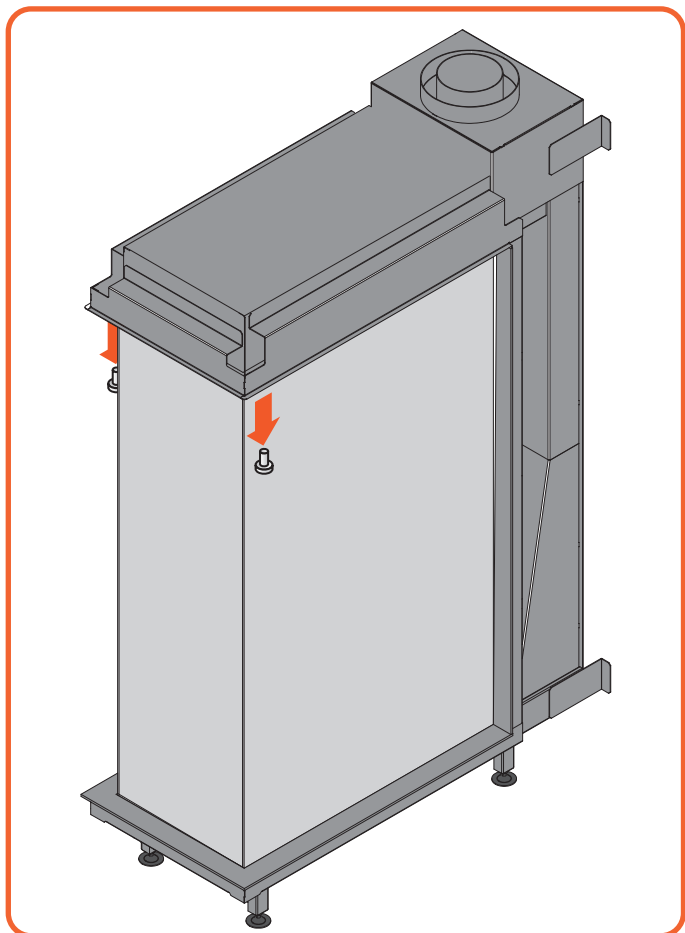
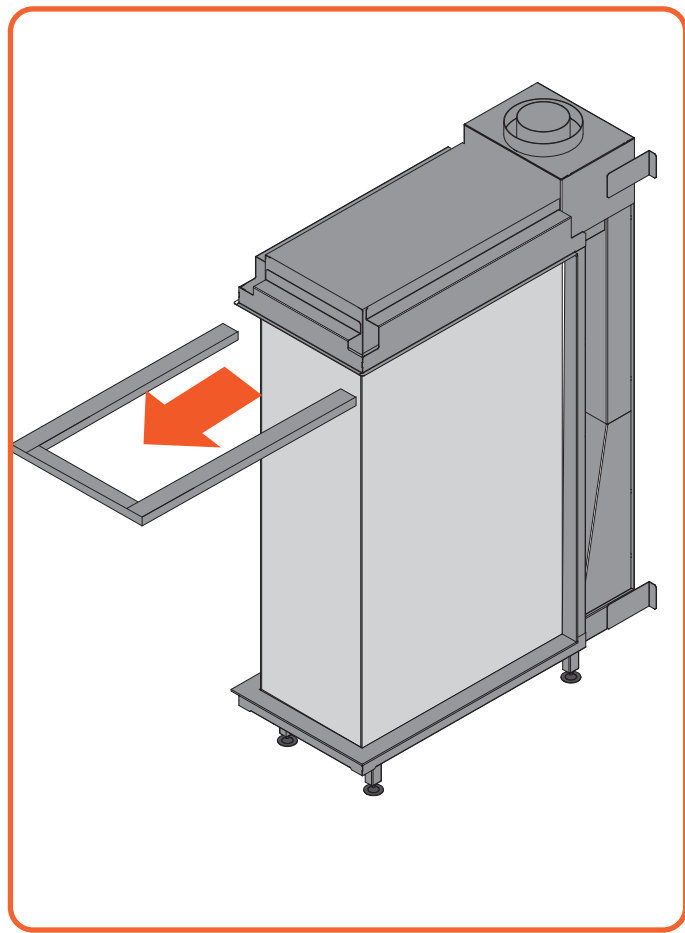

Figure 9.2 | Unscrew top trim
Figure 9.3 | Remove top trim
- Unscrew the top trim and remove it, See Figure 9.2 & Figure 9.3.
- Remove the screws from the upper trim, see Figure 9.2
- Remove the upper trim, see Figure 9.3